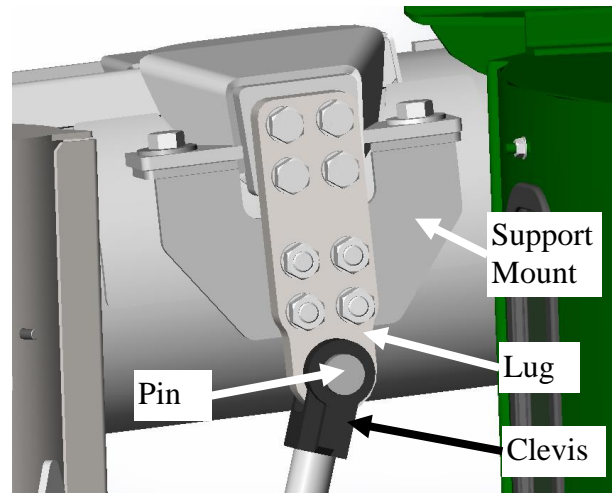

Figure 58– Upper Discharge Auger Configuration.
NOTE: The 6530 is shipped from the factory in the upper configuration (see Figure 58).
If Discharge Auger needs to be changed to the lower configuration do the following steps (see Figures 58 & 59):
5. Bolt parts back together as shown in Figure 58.